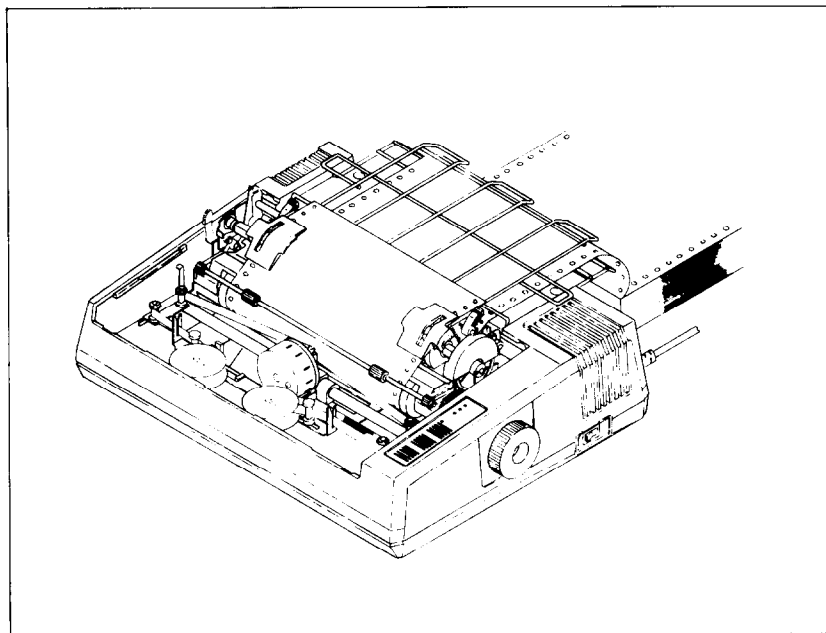

Figure 2-7. Ready to run with sprocket-feed paper.
11. When holes fit snugly over the nubby teeth in both sprockets, close the tractor covers and snap the clamp levers back into their locked position (Figure 2-7).